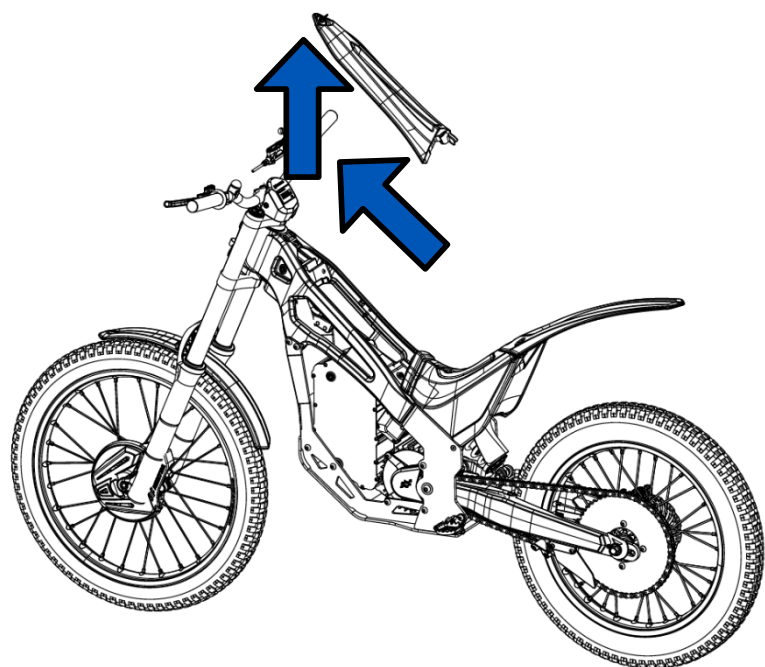

Fig. 37
- 3- Move the cover forward and then you can remove the upper casing of the motorcycle upwards (Figure 37).